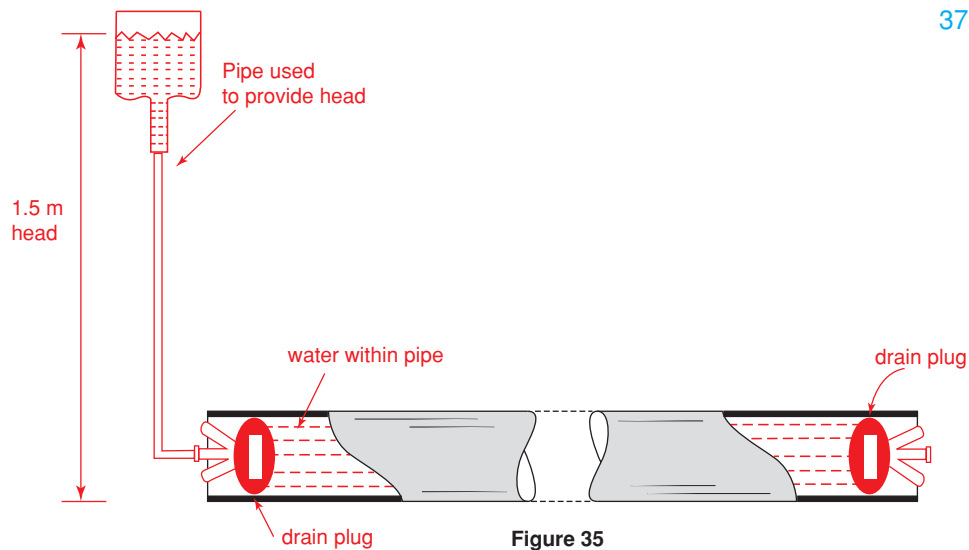

Figure 35
- (88) Complete Figure 35 to show how a 1.5 m minimum water head pressure test can be achieved to the drainage pipe. (Page 349.)
- (89) With reference to the previous question state the maximum water loss permitted from the pipe over a 30 min test period. (Page 348.)